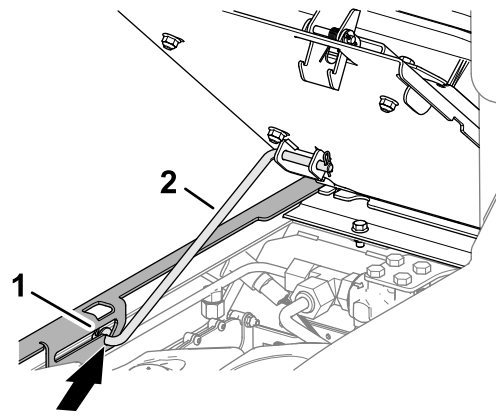

Figure 101
3. Ensure that the forward prop rod seats in the slot detent of the rod-guide plate (Figure 101).